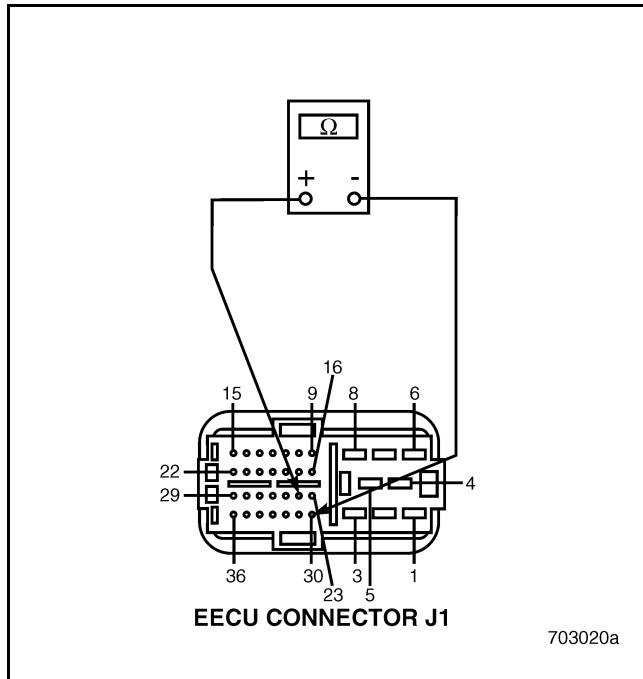

Figure 603
3. Measure the resistance between EECU connector J1 pin 24 and EECU connector J1 pin 30 (see Figure 603).